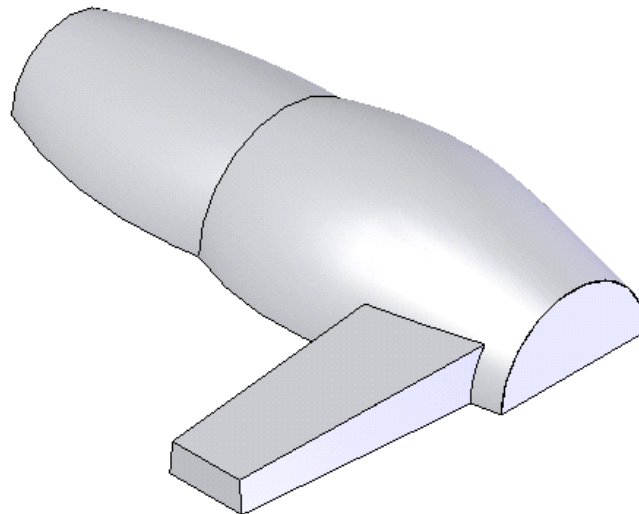

Figure 15-128 Model after creating the planar surface
- e. You will create a planar surface to close the front face of the handle, refer to Figure 15-128.
Model after creating the planar surface is shown in Figure 15-128.